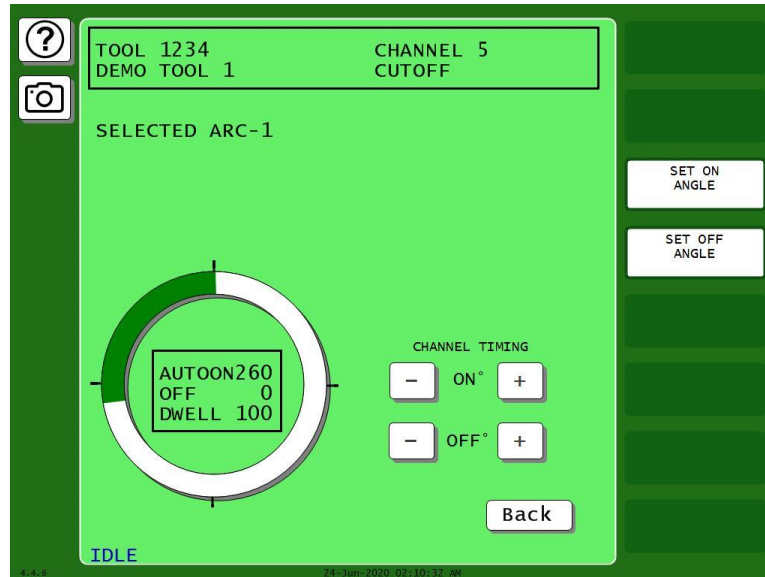

Figure 7-14. Cam Channel Auto Advance Program Screen
1. Select PROGRAM AUTO ADVANCE on the Cam Channel Program Type Menu. The Cam Channel Auto Advance Program screen displays, Figure 7-14.
The precise AutoOn angle value is displayed in the window inside the clock display. In Figure 7-14, the AutoOn angle is set to 260°.
- Set the Off angle on the crank angle clock in similar fashion, using the plus and minus buttons (+/-) for Channel Timing Off. The precise Off angle value is displayed in the window inside the clock display. In Figure 7-14, the Off angle is set to 0°.